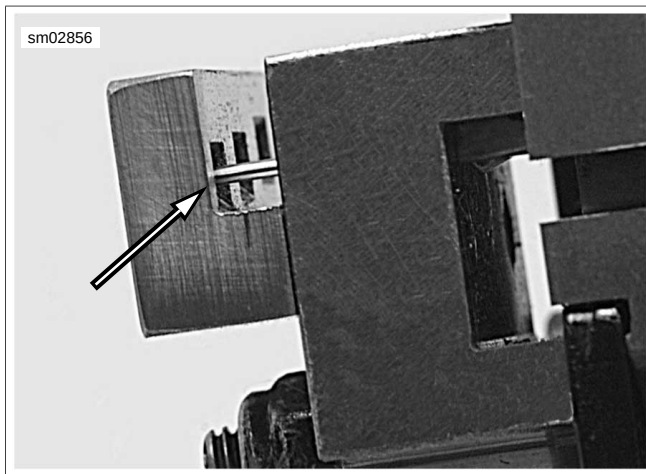

Figure A-33. Pin Terminal against Pin Locator Bar
- Pin Terminal:** See Figure A-33. The tip of a pin terminal passes through the socket locator bar and stops in the notch in the face of the pin locator bar.